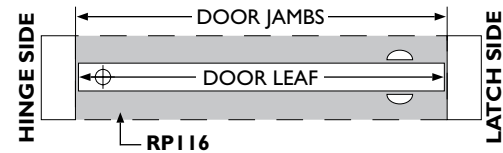

FIG.3
- STEP 3** Position RP116 on door sill to suit application. **(FIG.3)**